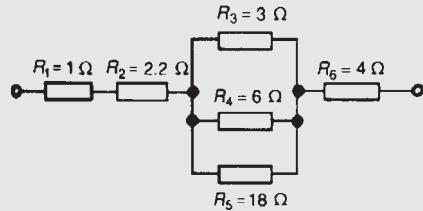

Figure 5.20
- Problem 10.** Find the equivalent resistance for the circuit shown in Fig. 5.20